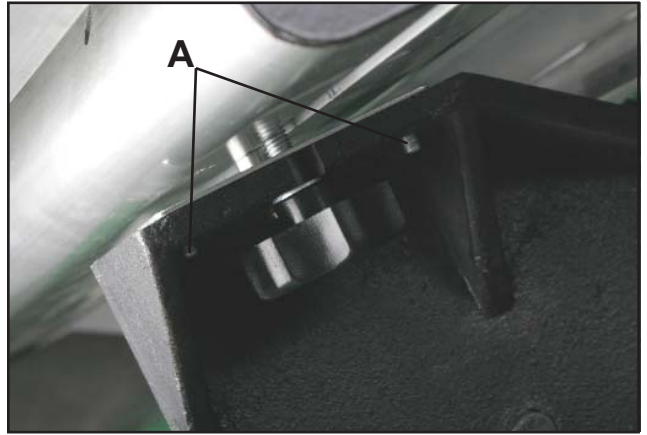

Figure 5
3. Slide the hardware toward the cast mounting bracket located on the saw body. Place the adjusting plate on top of the set screws as shown (A, Fig.5).
6. Adjusting the parallel of the saw table and sliding table with the four set screws (A, Fig.5).